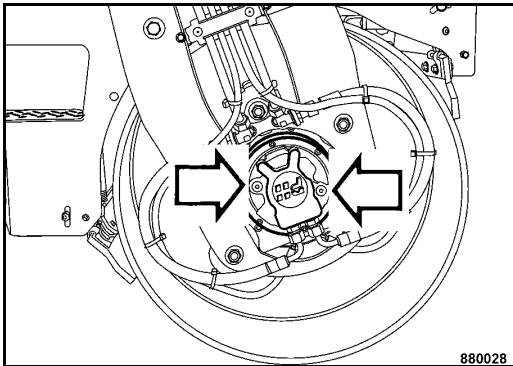

Fig. 108
- Screw both plugs (Fig. 108) back in and tighten them with 20 Nm.